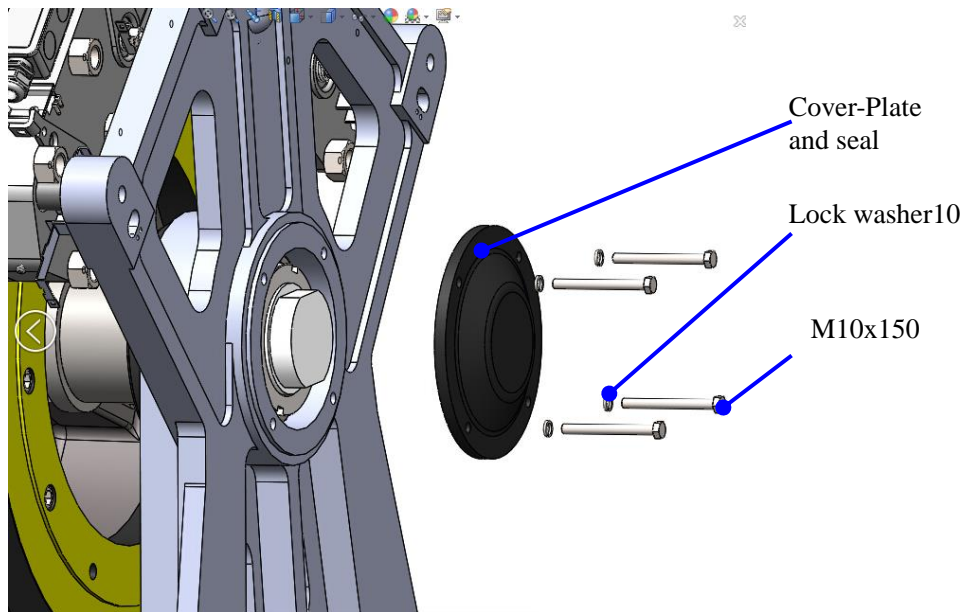

Figure 70: Install cover plate
14. Install Cover plate and grommet type seal; then tighten the bolt M10x150 (4 pieces) to 40 Nm (30 ft-lbs). See Figure 70.